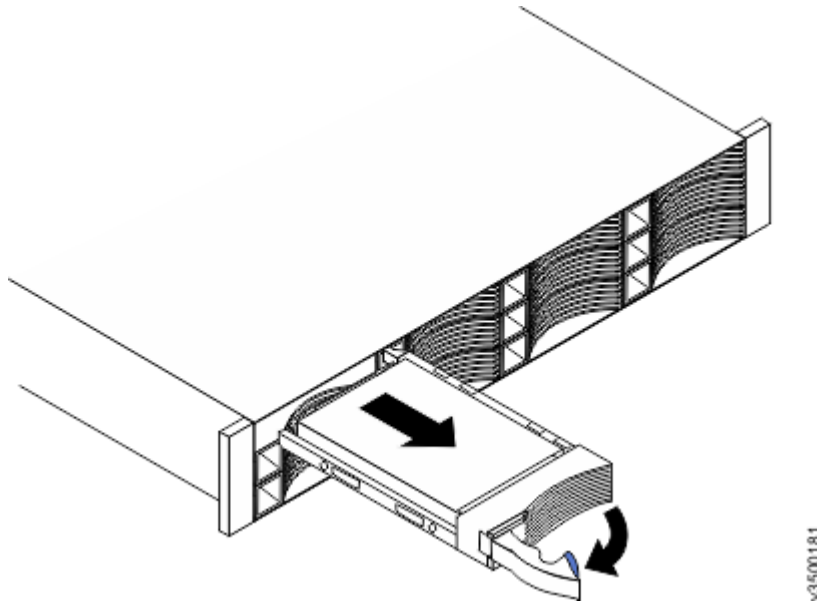

Figure 113. Unlocking and removing a 3.5-inch drive from its slot
5. Pull out the tray handle to the open position (see Figure 113 on page 179).